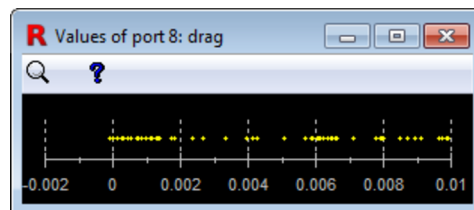

Figure 5.2: The values assumed by port “drag”. You may zoom in by clicking in the body of the dialog. Clicking the button in the tool bar zooms to fit.
2. Open a *distribution scope* to display the distribution of values the selected port assumes in the test suite, as shown in Figure 5.2. Alternatively, it is possible to view the values assumed during a single test or group of tests, rather than during the entire test suite. This may be done by right-clicking on the selected port or by using the relevant items in the View menu; see Section 5.2 for details. The button is disabled when a filter is active.
Open Distribution Scope (Whole Suite). For the currently selected port, open a distribution scope to display (as shown in Figure 5.2) the values the port assumes when executing the test suite.